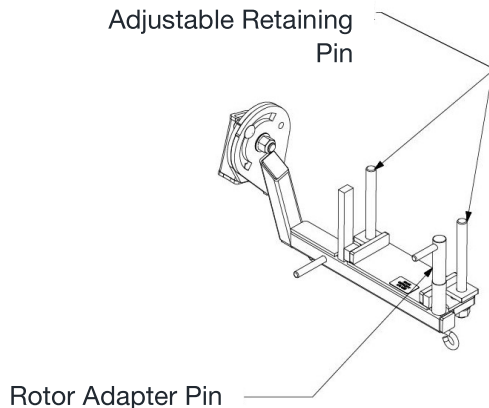

Figure 1
5. Adjust the width of the rotor adapter adjustable retaining pins; (shown in figure 1) to accept the rotor into the adapter and tighten the nuts on the bottom of the rotor adapter once the correct width is determined.
6. Position the Disc Brake Dolly with Rotor Adapter under rotor/wheel end assembly. It may be necessary to remove the rotor adapter pin (shown in Figure 1) on the adapter to position the Disc Brake Dolly under the rotor and hub assembly. Close release on the manual power unit. Once under the rotor, raise the Disc Brake Dolly with the manual power unit until it contacts the rotor and hub assembly. Replace the rotor retaining pin in the socket tube on the rotor adapter.